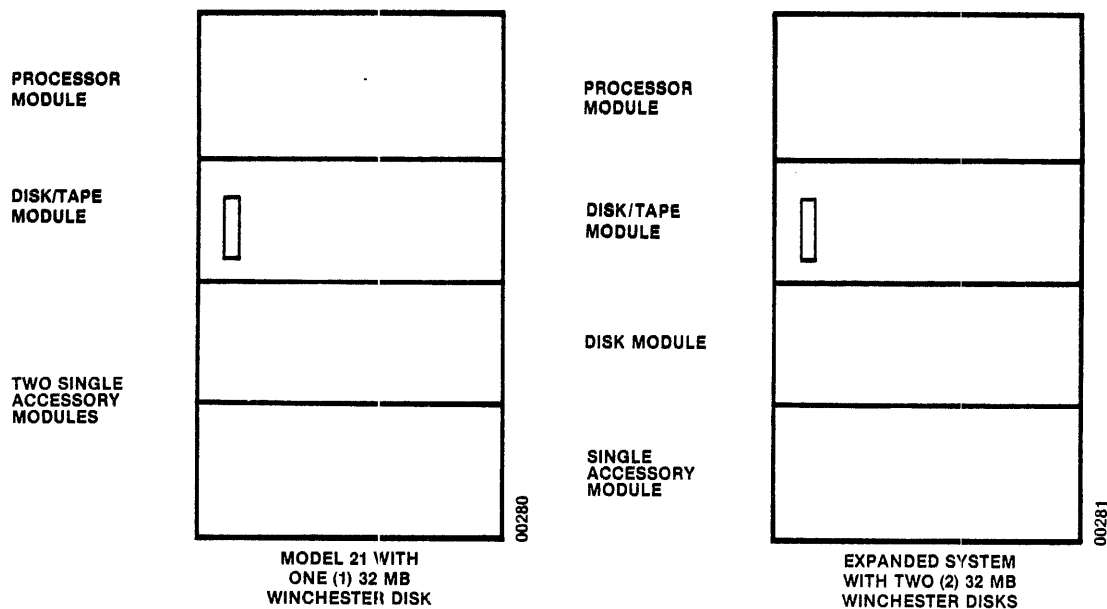

Figure 3-16 Existing Model 21 and Expanded System Configurations
Use the following procedure to install the Disk Module, and to modify the configuration of the FINCH Disk Drive in the present Disk/Tape Module. Install the added Disk Module between the Disk/Tape Module and the Accessory Module. Figure 3-16 shows the configurations for an existing and an upgraded system.
- (5) Assemble the Disk Module, Disk/Tape Module, and Processor Module in the order shown in Figure 3-16 (Expanded System).
- (6) Unlock the drives read/write heads. Using the crooked end of the head lock/unlock tool disengage the rotary-arm shipping lock. Pull towards the front of the drive until the arm locks into the OPERATE position.